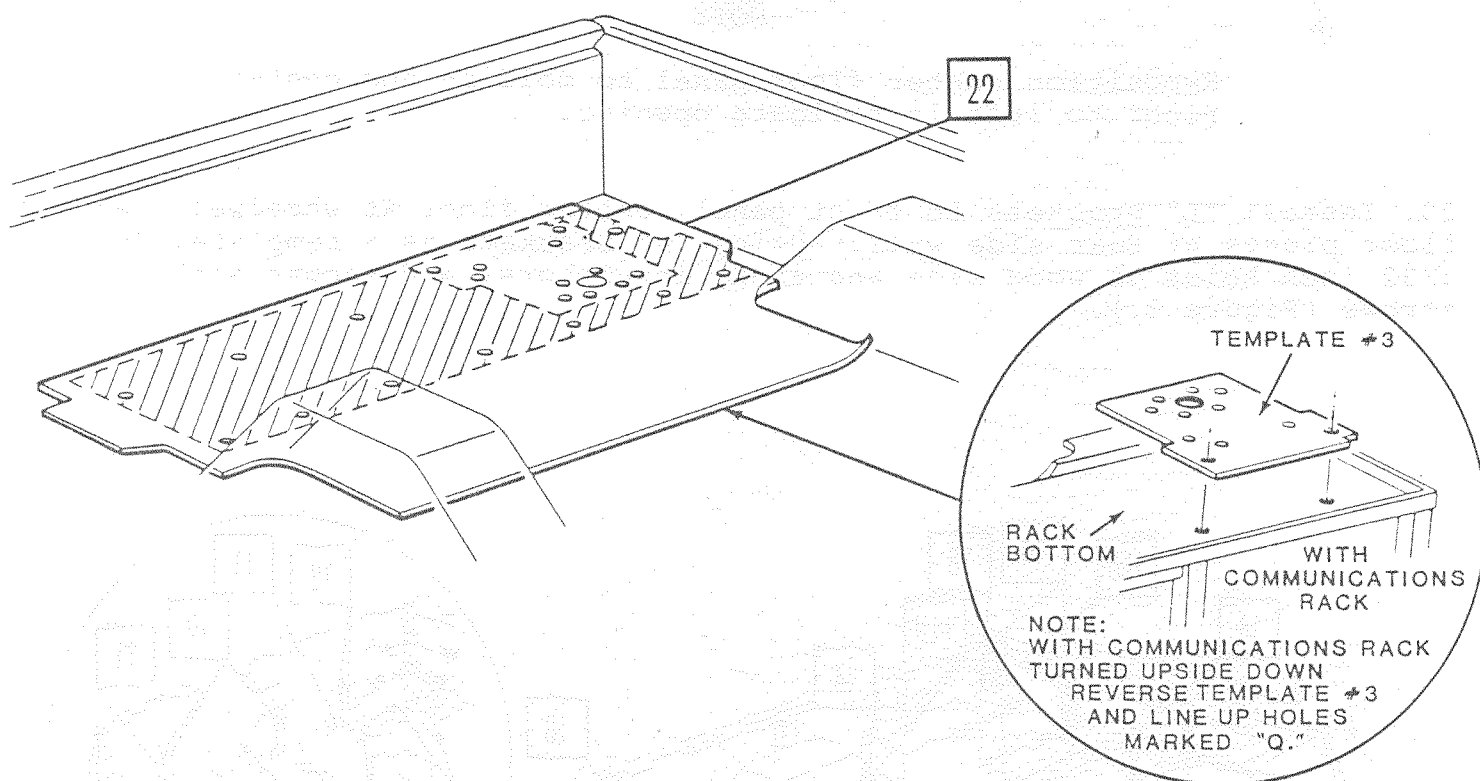

Figure 4.
24. Turn communications rack upside down and align template to bottom of rack. Center punch, remove template and drill holes to sizes indicated on template (Figure 4.).